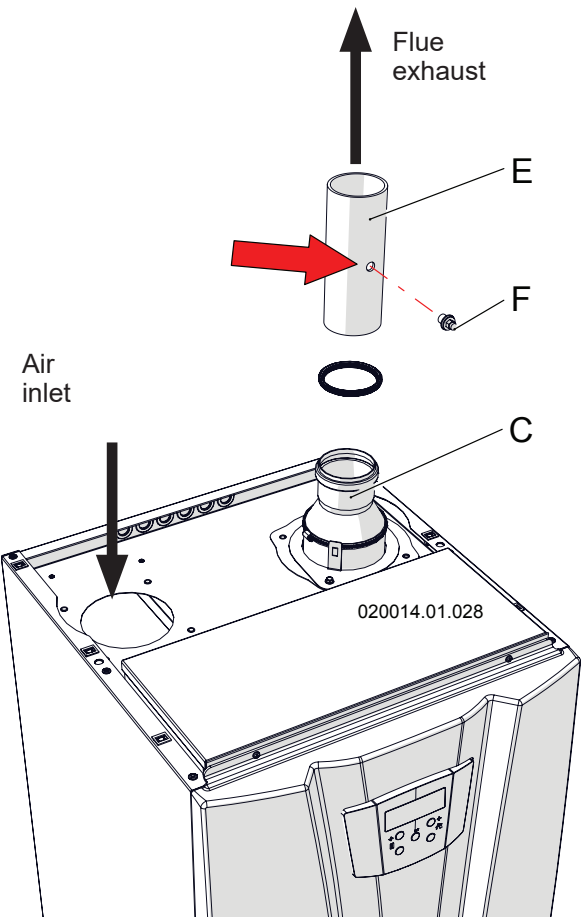

Figure 11-2 - Split system installation
- The appliance is standard supplied with fittings to connect to the flue exhaust. To install, proceed as shown in figure 11-2.